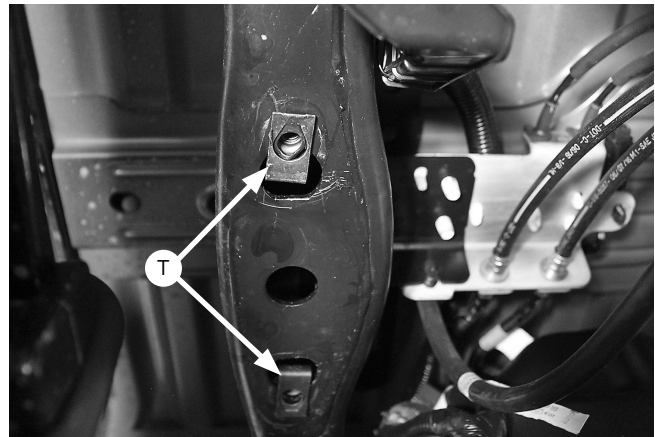

Fig. 4
3. Install the universal nuts (T) into the frame rail, lining up the holes in the frame and the threads in the nuts so that a bolt can be installed (Fig. 4).